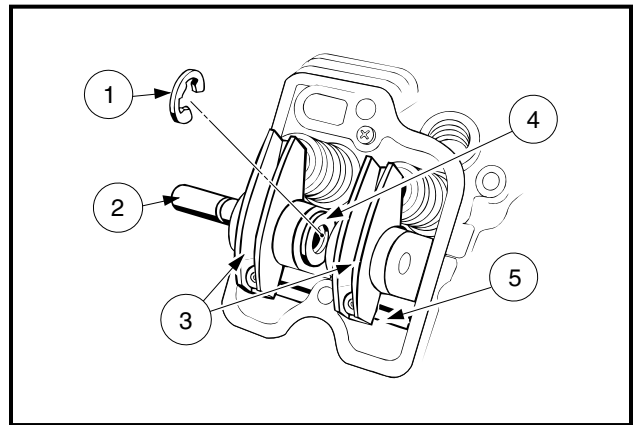

Figure 3-6 Remove Rocker Arms and Push Rods
NOTE: The FE350 engines are equipped with hydraulic lifters, which automatically eliminate all clearance in the valve train. Therefore, the rocker arms (3) and the push rods (5) do not need to be put back in their original positions (**Figure 3-6, Page 3-7**).
2. Remove the E-ring (1) and pull the rocker shaft (2) out of the cylinder head (**Figure 3-6, Page 3-7**).
3. Lift out the rocker arms (3), washer (4), and push rods (5).